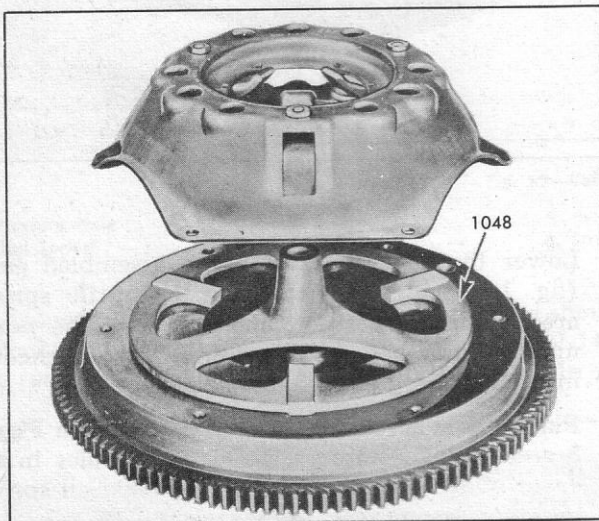

Fig. 19—Gauge Plate Position
1. Place gauge plate on the flywheel in the position normally occupied by the driven plate as shown in Figure 19.